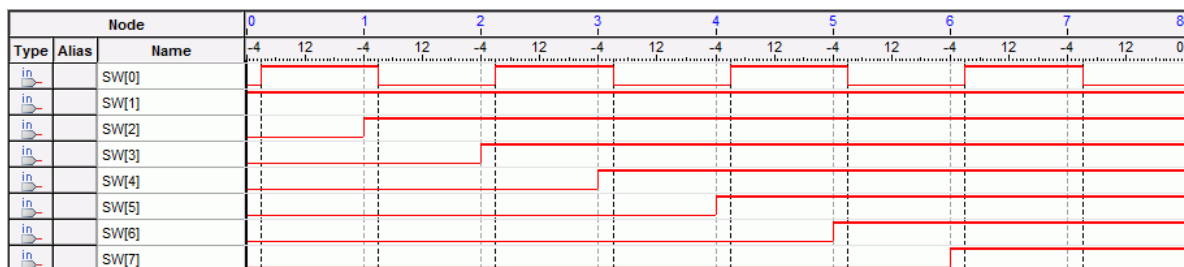

Figure 24. Possible waveforms that could result when using the Segmented Acquisition mode.
- Go back to the SignalTap II window and click **Processing > Run Analysis**. Now, flip SW[0] up and down, and in between flips change the values of the other 7 switches. After you have done this 8 times, the values in the buffer will be displayed in the data window, and this will display the values that the 8 switches were at around each trigger. A possible waveform is presented in Figure 24. This resulted from the user flipping up one more switch between each flip of SW[0].